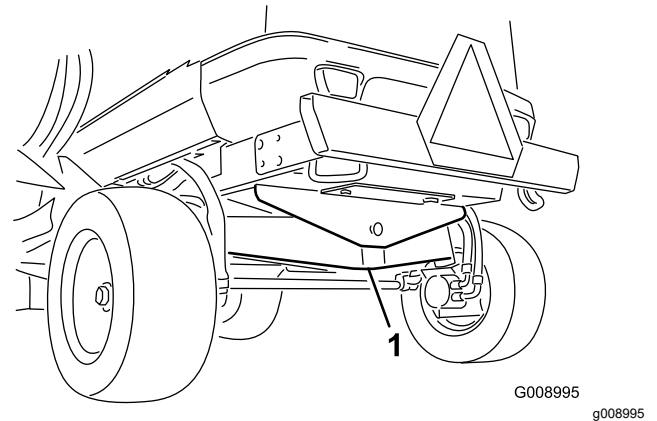

Figure 45
1. Front jacking point (2)
**Rear of the machine**—at the center of the axle (Figure 45)